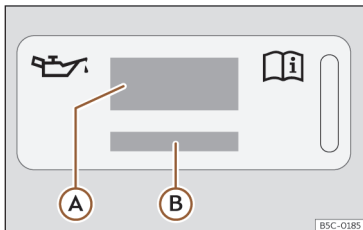
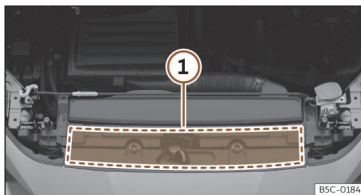

Fig. 223 In the engine compartment: engine oil label
Fig. 224 In the engine compartment: area where the engine oil label is located
Key to the >>> **Fig. 223**:
If the engine oil has to be topped up, use one of the oils shown on the label >>> **Fig. 223**. The label with the prescribed standard is located at the front of the engine compartment >>> **Fig. 224** (1). If you use the recommended engine oil, you can top up the oil as often as necessary.
- If the label showing the engine oil specifications is missing >>> Fig. 223, please contact a specialist workshop.